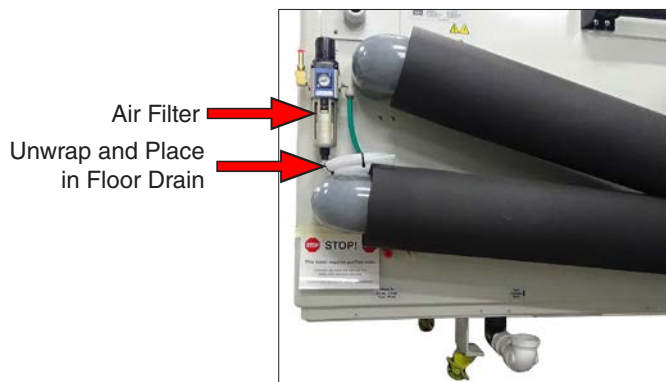

Figure 6.7h: Air filter drain.
- The end of the supplied 1/4" tubing from the bottom of the air filter should be placed into a floor drain (Figure 6.7h).